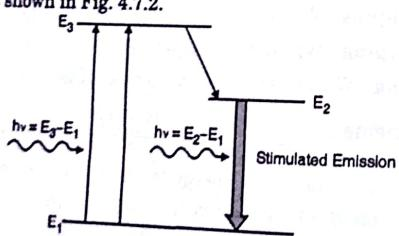

Fig. 4.7.2 : Stimulated emission in 3 levels
- A photon with energy  $h\nu = E_2 - E_1$  may trigger the stimulated emission process as shown in Fig. 4.7.2.